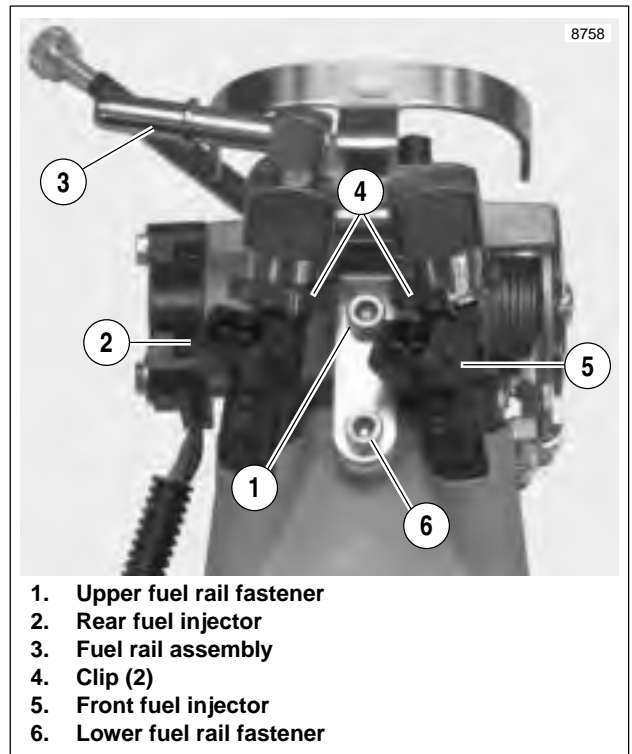

Figure 4-215. Fuel Injectors
1. See Figure 4-215. Remove upper fuel rail fastener (1).
5. See Figure 4-215. Apply a drop of LOCTITE THREAD-LOCKER 222 (purple) to threads of fuel rail fastener (1).
- a. See Figure 4-215. Remove both injector clips (4).
6. See Figure 4-215. Install fuel injectors.
- b. Press the fuel rail assembly (3) onto the top of the injectors.
7. Snap the injector clips (4) over the flange on the fuel rail outlet and into the top groove in the injector.